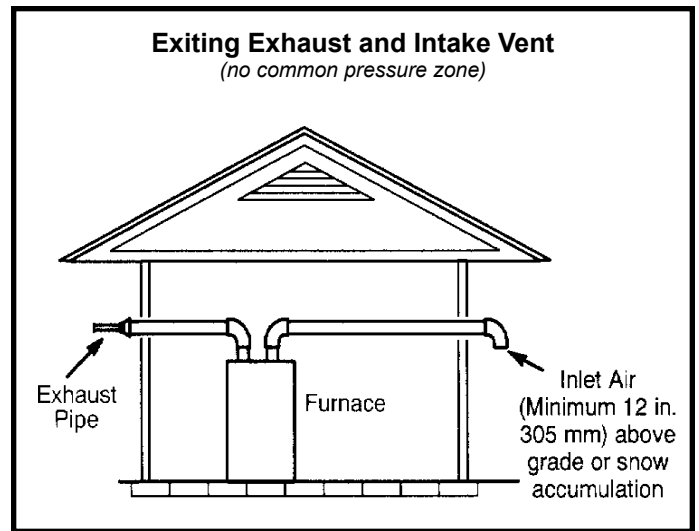
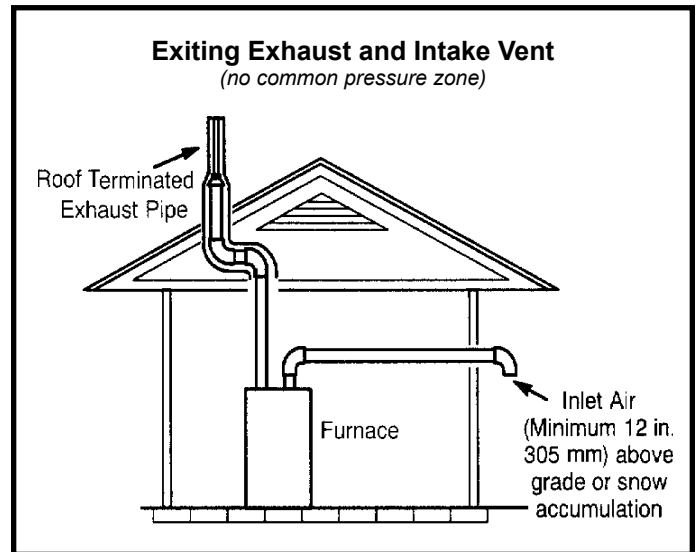

Figure 33
Figure 34
1. Intake and exhaust terminations are not required to be in the same pressure zone. You may exit the intake on one side of the structure and the exhaust on another side (Figure 33). You may exit the exhaust out the roof and the intake out the side of the structure (Figure 34).